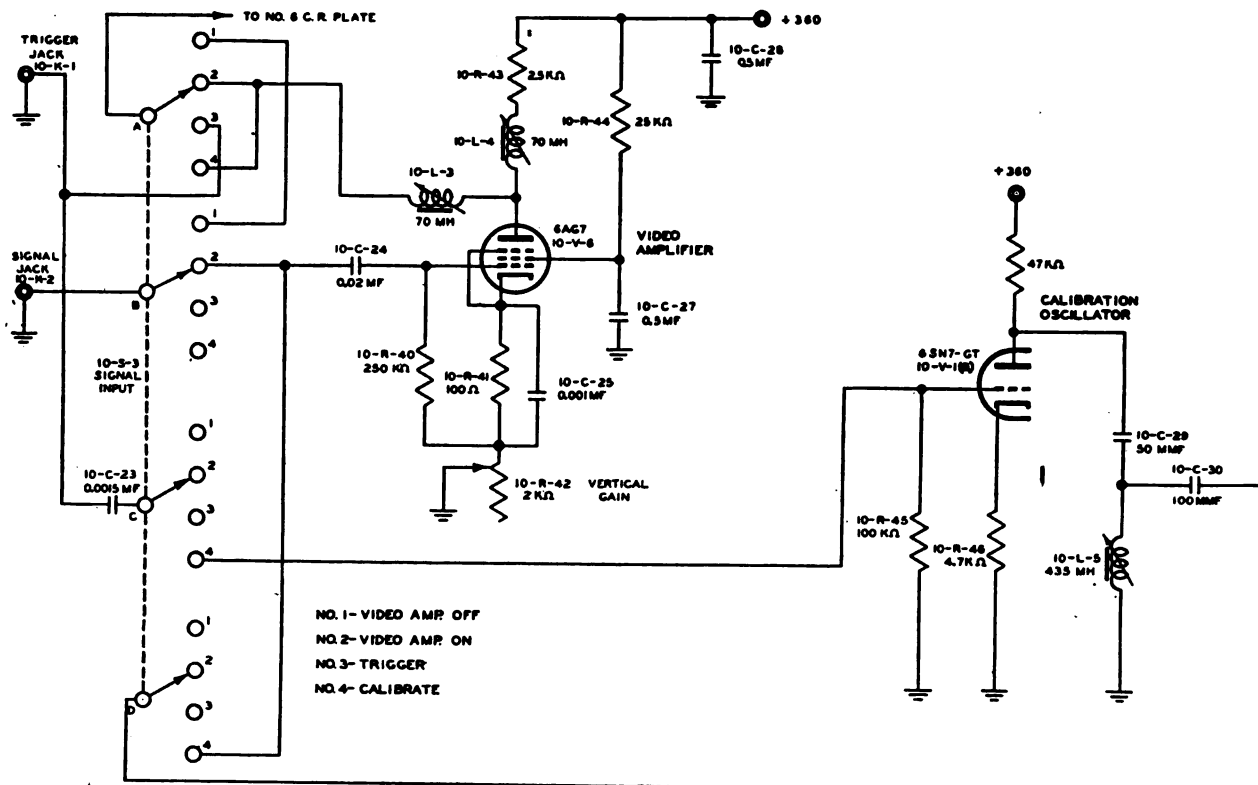

Figure 140. Video amplifier and calibration oscillator, simplified schematic diagram.
(8) *Calibration oscillator* (fig. 140). This stage is provided for generating a damped oscillation at a frequency of 1 megacycle for calibrating the length of sweep in the fast sweep position. The 6SN7 tube 10-V-1(B) is normally conducting, with approximately 3 milliamperes of plate current flowing. Coupling either a positive or negative trigger pulse into the grid circuit causes a sudden change in plate current. This change causes a surge of current flow through the 50-mmf capacitor (10-C-29) and 435-microhenry inductance (10-L-5), which make up a series resonant circuit tuned to 1 megacycle. After the initial shock, the circuit will continue to oscillate until the energy in the circuit is dissipated by the resistances associated with the circuit. The 1-megacycle signal is coupled into the video amplifier by a 100-mmf capacitor (10-C-30) where it is amplified, then applied to the vertical plate of the oscilloscope.
(11) *Signal input switch* (figs. 140 and 143). (a) In the OFF position, the video stage is not used